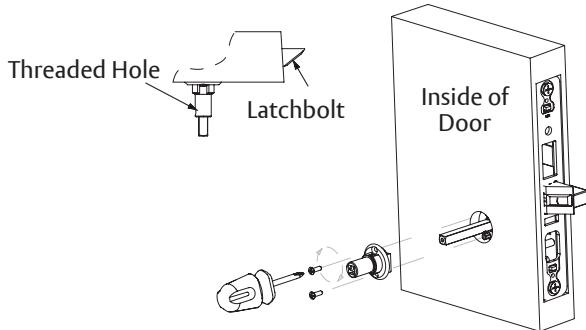

Figure 4
1. Slide inside adapter over spindle. Verify threaded hole in adapter faces hinge. (Figure 4)